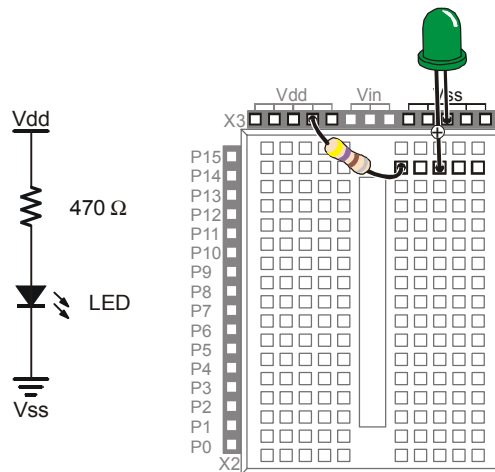

Figure 2-6
Figure 2-6 shows a circuit schematic, and a picture of how that circuit will look when it is built on the prototyping area. The breadboard is separated into rows of five sockets. Each row can connect up to five leads, or wires, to each other. For this circuit, the resistor and the LED are connected because each one has a lead plugged into the same 5-socket row. Note that one lead of the resistor is plugged into Vdd so the circuit can draw power. The other resistor lead connects to the LED's anode lead. The LED's cathode lead is connected to Vss, or ground, completing the circuit.
You are now ready to build the circuit shown in Figure 2-6 (below) by plugging the LED and resistor leads into sockets on the prototyping area. Follow these steps:
- √ Double check to make sure you built your circuit exactly as shown in Figure 2-6.